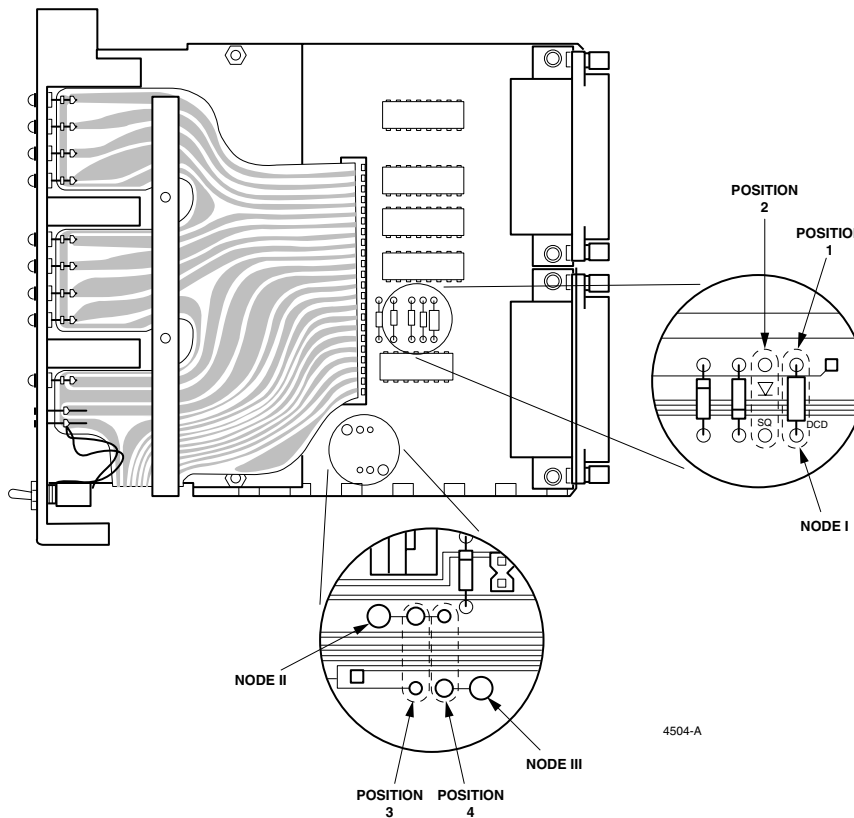
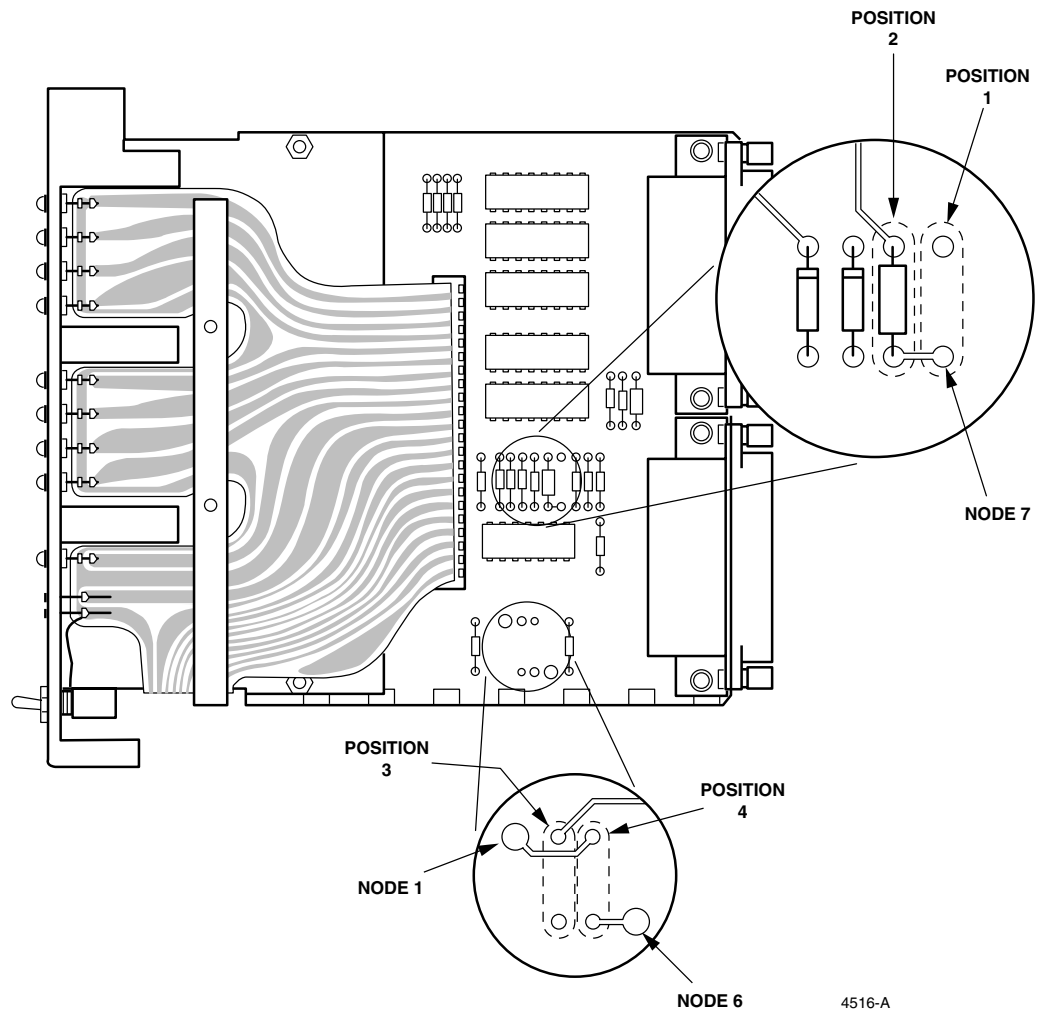
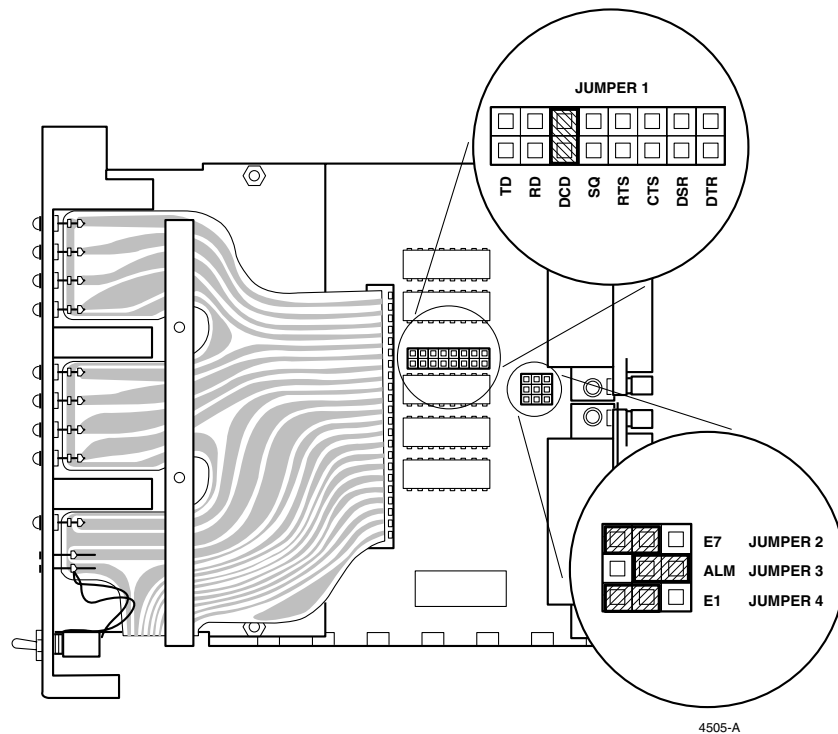

Figure 2-4. Alarm Circuits Modification Points with Solder Connections on PC Boards 2-40793-0010 and -1000
Figure 2-5. Alarm Circuits Modification Points with Solder Connections on PC Board 2-40793-1005
Figure 2-6. Alarm Circuit Modification Points with Mini-Jumpers on PC Boards 2-42932-9734 and -9739
- a) Several different versions of some modules exist in the field. Remove the Data Patch, Data Interface or Data Test Module from the chassis. Determine which version you have by identifying the PC Board used. It's number can be found on the non-component side of the board, see Table 2-4. Refer to the figure shown in Table 2-4 for the modification points on the PC Board. If it refers you to the drawing in Figure 2-3, you need only position the mini-jumper to the appropriate pins on the wire wrap connectors shown. The mini-jumper needs to connect a wire in the center row to the appropriate wire in the top or bottom row (shown on DCD in the insert in Figure 2-3). This completes the modification. If Table 2-4 refers you to the drawing in Figure 2-4, proceed with Step "b." If Table 2-4 refers you to the drawing in Figure 2-5, go to Step "k" for modification instructions. If Table 2-4 refers you to the drawing in Figure 2-6, go to Step "s" for modification instructions.
- b) Place the Data Patch or Data Interface Module component side up on a firm, flat work surface (refer to Figure 2-4 for this procedure).
- k) Refer to Figure 2-5 for this procedure. Place the Data Patch or Data Interface Module component side up on a firm, flat work surface.
l) Remove the resistor from Position 2. This takes out the factory alarm. (Installation of the field option may void the warranty if not done according to the instructions in this manual.) Be sure Node 7 is cleared of all solder (see Figure 2-5).
► **Note:** Before proceeding be sure you remove the solder from Circuit Positions 3 and 4 (both ends) and from Node 1 and 6, Figure 2-5.
o) Locate Node 1 and Node 7 (Figure 2-5) on the component side of the printed circuit board and identify their locations by inserting a piece of wire through the board. Turn the module over so that the component side is down and install a jumper wire between Node 1 and Node 7. Carefully solder the jumper in place.
q) Again, turn the module over so the component side is down. Install one end of a jumper wire into the designated node (6) and carefully solder it into place. The other end of this jumper wire attaches to the RS232/V.24 lead to be monitored.
s) Current versions of the PatchMate EIA-232 modules (PMMLA-1 and PMMLA-2) have four options that you can use to tailor each module to specific channel needs. These options are selected by moving the mini-jumpers on the board. Place the Data Patch or Data Interface Module component side up on a firm, flat work surface. When performing this procedure, refer to Figure 2-6.